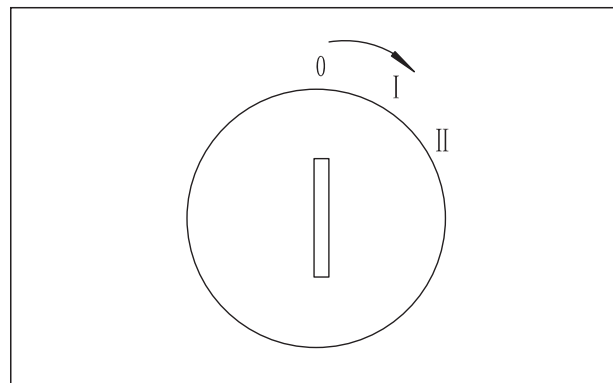

Fig. 4-15
4. Insert switch key and turn clockwise to position 'I'.(see Fig. 4-15).